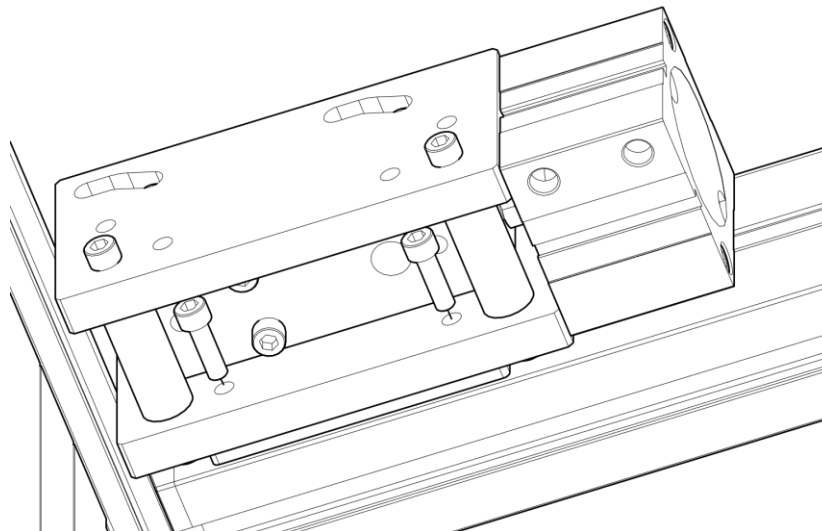

Figure 25: Tighten M6 SHCS
**Step 8:** Tighten M6 SHCS as shown in Figures 25 & 26.